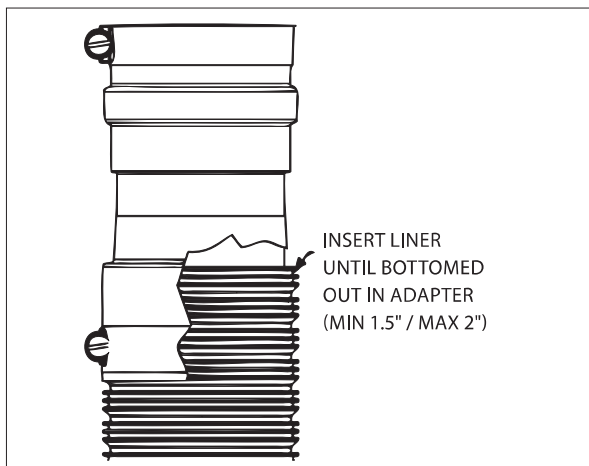

Figure 14
5. Place adapter on liner (the inner tube fits inside the liner and the outer tube fits outside the line). The adapter when properly seated will cover marks made on liner in **step 1 (Figure 14)**.